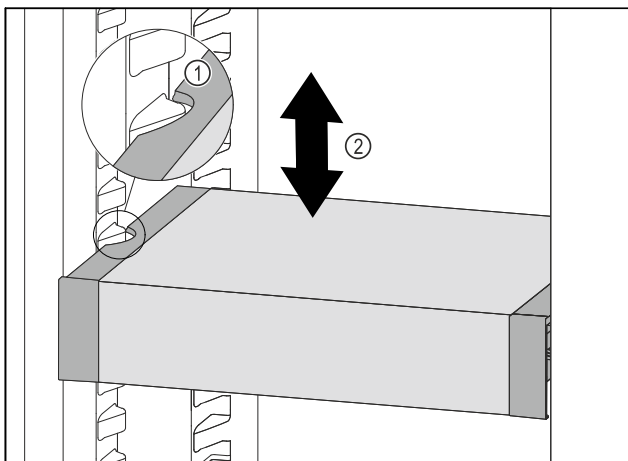

Fig. 137
- Pull VarioSafe forwards until the recesses in the side of the VarioSafe are at the level of the support rib in the refrigerator compartment. Fig. 137 (1)
- Move VarioSafe up or down in the refrigerator compartment until the desired height is reached. Fig. 137 (2)